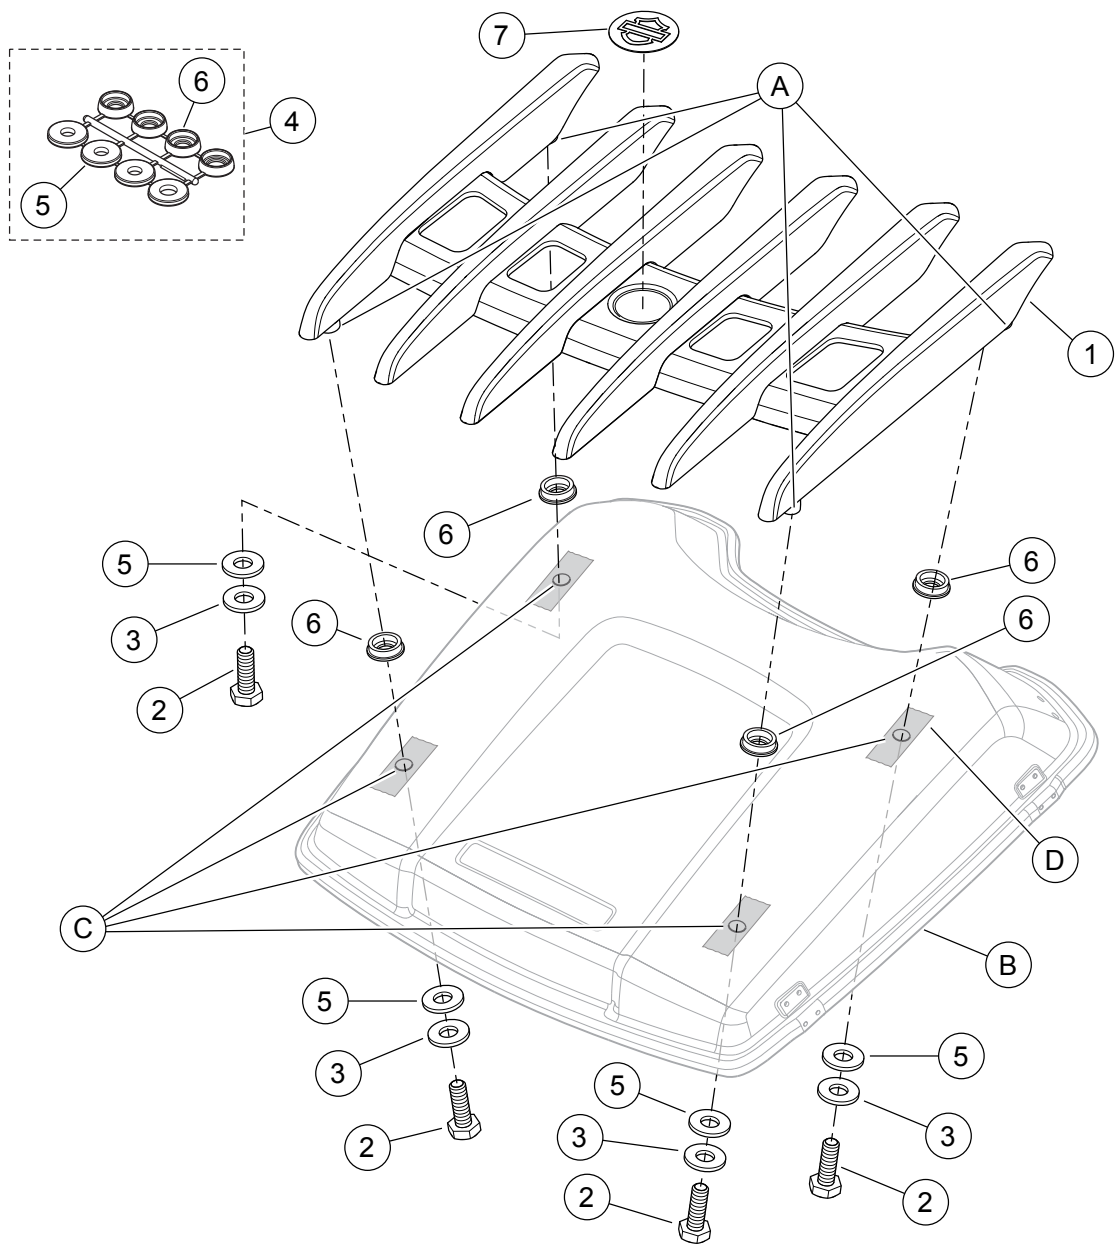

Figure 1. Service Parts, Stealth Tour-Pak Luggage Rack Kit
See Figure 1 and Table 1.
2. See Figure 1. Cut the four mounting pads (6) and washers (5) from the mounting pad and washer set (4).